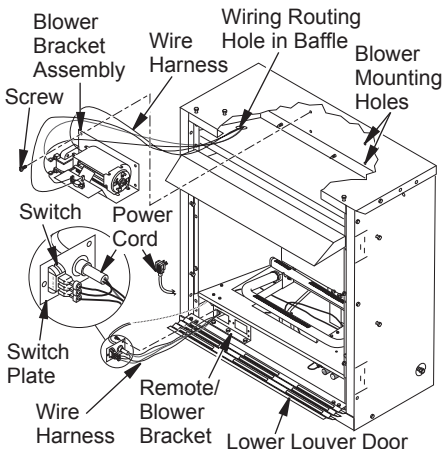
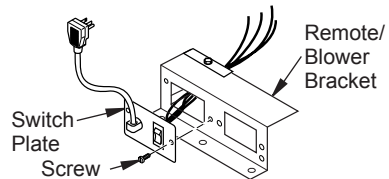

Figure 14 - Installing Blower Bracket Assembly (Remote-Ready Unit Shown)
Figure 16 - Installing Switch Plate to Remote/Blower Bracket
- Note the wire locations on back of AUTO/OFF/ON switch. The terminals on back of switch are numbered 1, 2 and 3. Carefully remove red wire from terminal 3 and blue wire from terminal 1. Black wire can remain on middle terminal 2 (see Figure 14).
- In top of the fireplace cabinet, locate the four mounting holes on the outer casing. Align these four holes with those on the blower bracket assembly. Attach blower bracket assembly to the outer casing with 4 #10 screws provided (see Figure 14).
- Insert the 4 wire harnesses from behind the remote/blower bracket through hole in rear of bracket with bushing and through the left rectangular hole to front of fireplace (see Figure 14).
- Install the switch plate on the remote/blower bracket with 2 #10 screws provided (see Figure 16). Route power cord out of the cabinet by inserting it through the bushing on the outer casing (see Figure 14). Plug fan kit into 120-Volt grounded power supply and test operation. *Note:* When switch is in the AUTO position, the fan will start after the fireplace has run for a few moments. The fan will continue to run for several moments after the fireplace has been turned off. When switch is in the ON position, the fan will run until turned to OFF.